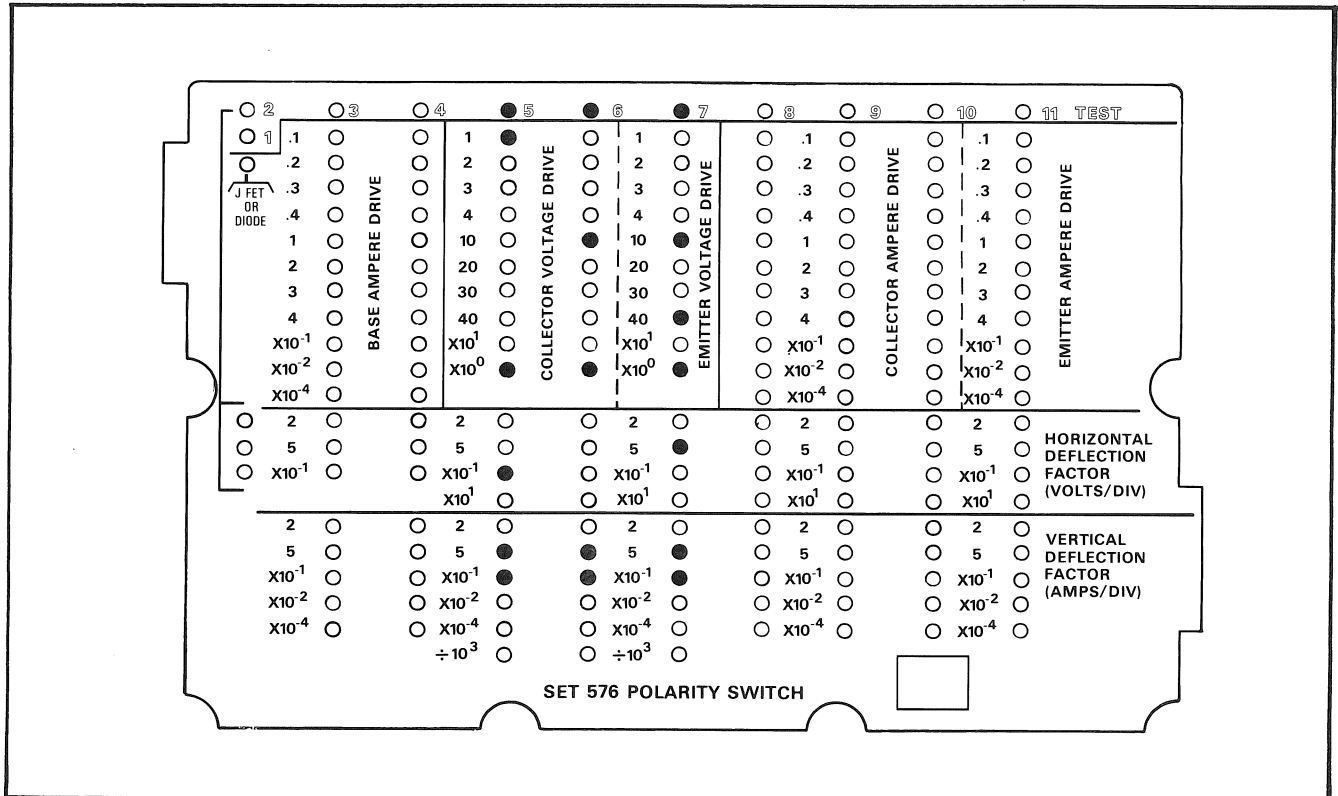
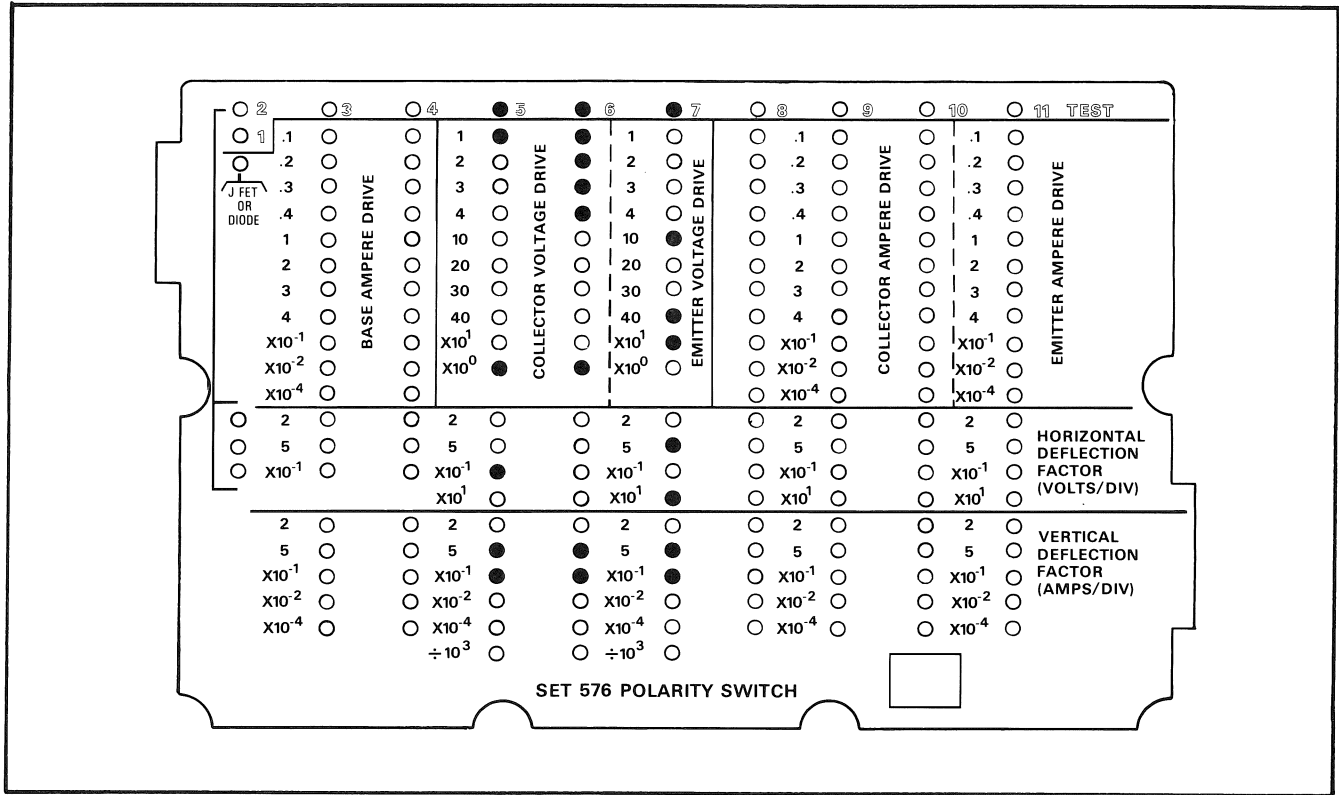

Fig. 5-14. Program 14.
Fig. 5-15. Program 15.
The voltage supply output is checked under load at high line and low line in both +(NPN) and -(PNP) polarities. High line tests are made using program 14 (Fig. 5-14); low line tests use program 15 (Fig. 5-15). Table 5-5 lists the test information.
a. Install a card containing program 14 (Fig. 5-14) in the card reader.
f. Install a card containing program 15 (Fig. 5-15) in the card reader.